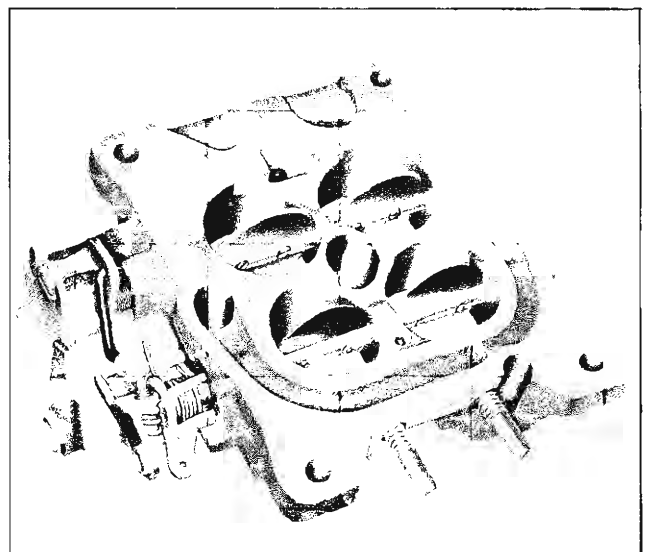

Fig. 61—Throttle Flange—Exploded View
1. Install idle speed screw and spring, Figure 61. Initial adjustment should be 3 complete turns from fully seated position.